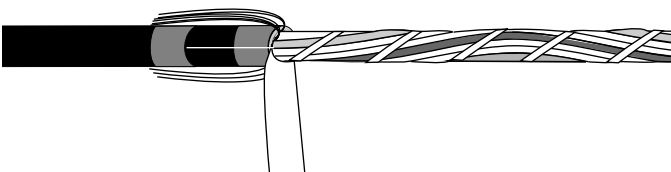

Figure 27
**7.6** Separate the water blocking tape from the cable core (Figure 27). Use scissors to cut the water-blocking tape flush with the end of the cable sheath.